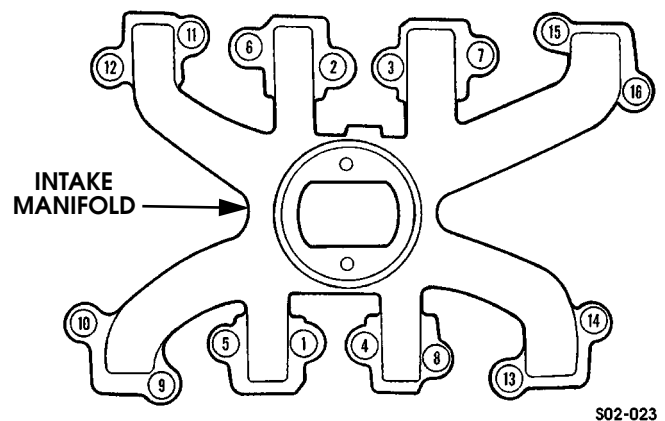

Figure 2-39: Manifold Bolt and Stud Tightening Sequence
5. Install remaining manifold attaching bolts and studs. Tighten bolts and studs in sequence (Figure 2-39). This is necessary to avoid leaks, or cracking the manifold. Correct stud and bolt is set to 31 lb-ft (42 N•m) torque.
7. Install intake manifold and new gaskets. A gasket dressing such as, perfect seal, or Permatex High Tack, can be used to hold gaskets in place. Tighten manifold bolts and studs to 31 lb-ft (42 N•m) torque in sequence (Figure 2-39:).
7. Install intake manifold and new gaskets. A gasket dressing such as Perfect Seal, or Permatex High Tack, can be used to hold gaskets in place. Tighten manifold bolts and studs to 31 lb-ft (42 N•m) torque in sequence shown (Figure 2-39).